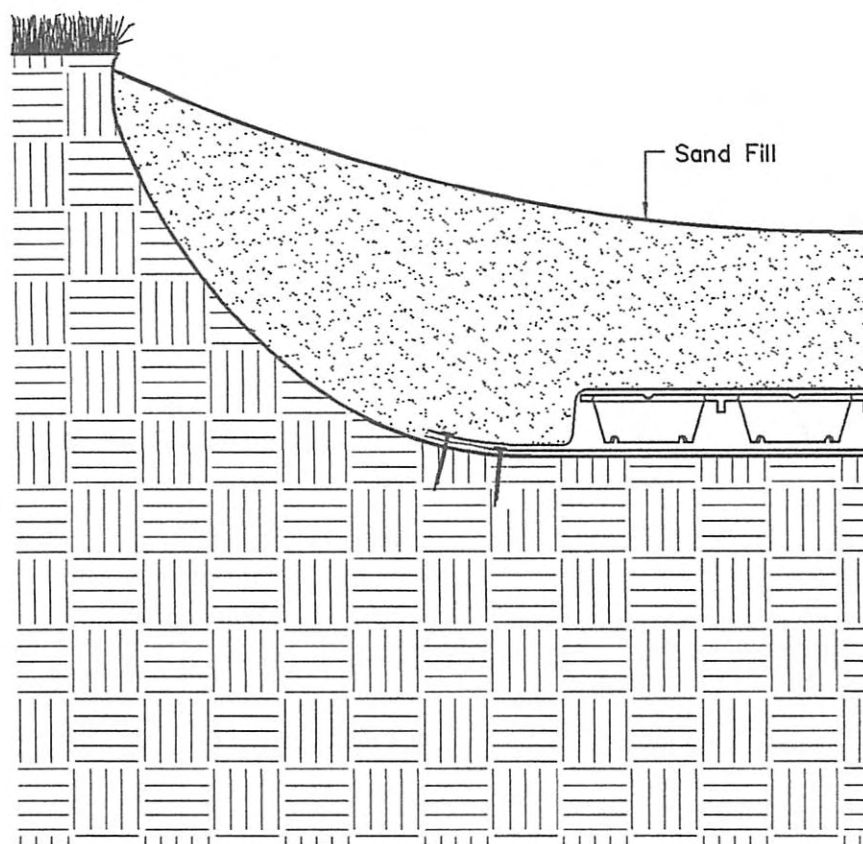

Figure 7
11. After approval of the top layer of filter fabric installation the AirDrain grid is now completely contained within filter fabric from above and below, and the sides. Now you may begin the installation of the specified sand fill material. Proceed cautiously during the sand fill placement to avoid any damage to the subsurface drainage system (see Figure 7 and photos 11 and 12).